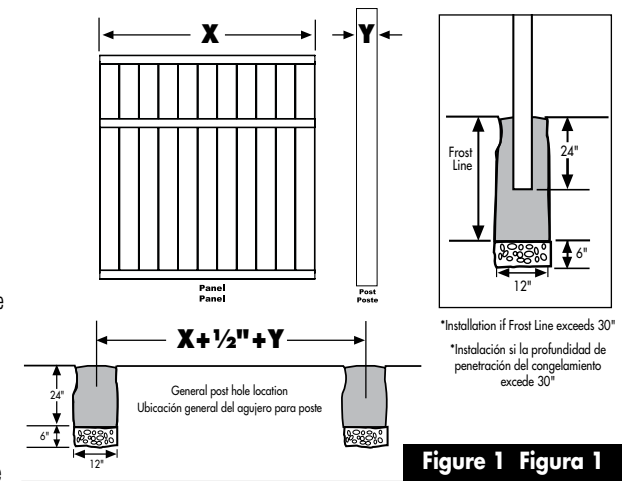

Figure 1 Figura 1
- *If frost line exceeds 30" (Figure 1) Dig hole to the appropriate depth Add 6" of gravel for post drainage Add concrete until a depth of 24" remains Follow above instructions from step (c)